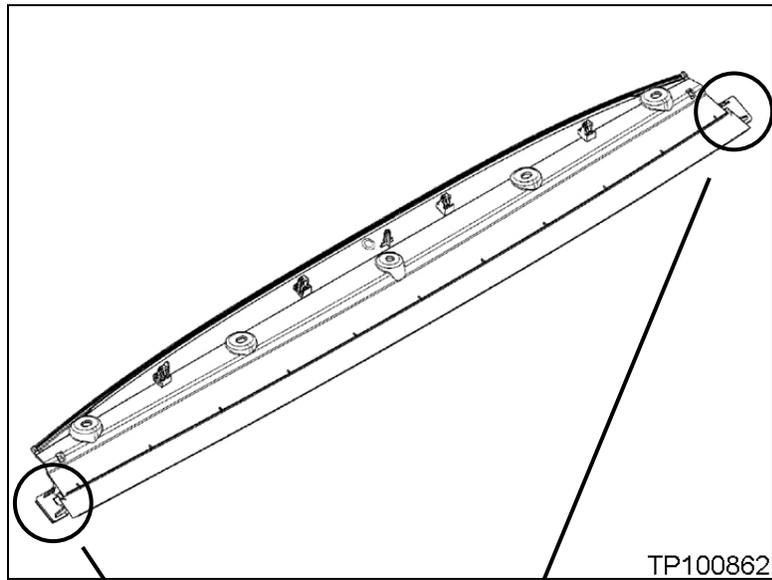

Figure 4
3. Cut to size, and then apply two (2) pieces of felt cloth tape, one on each side tab (see Figure 4).